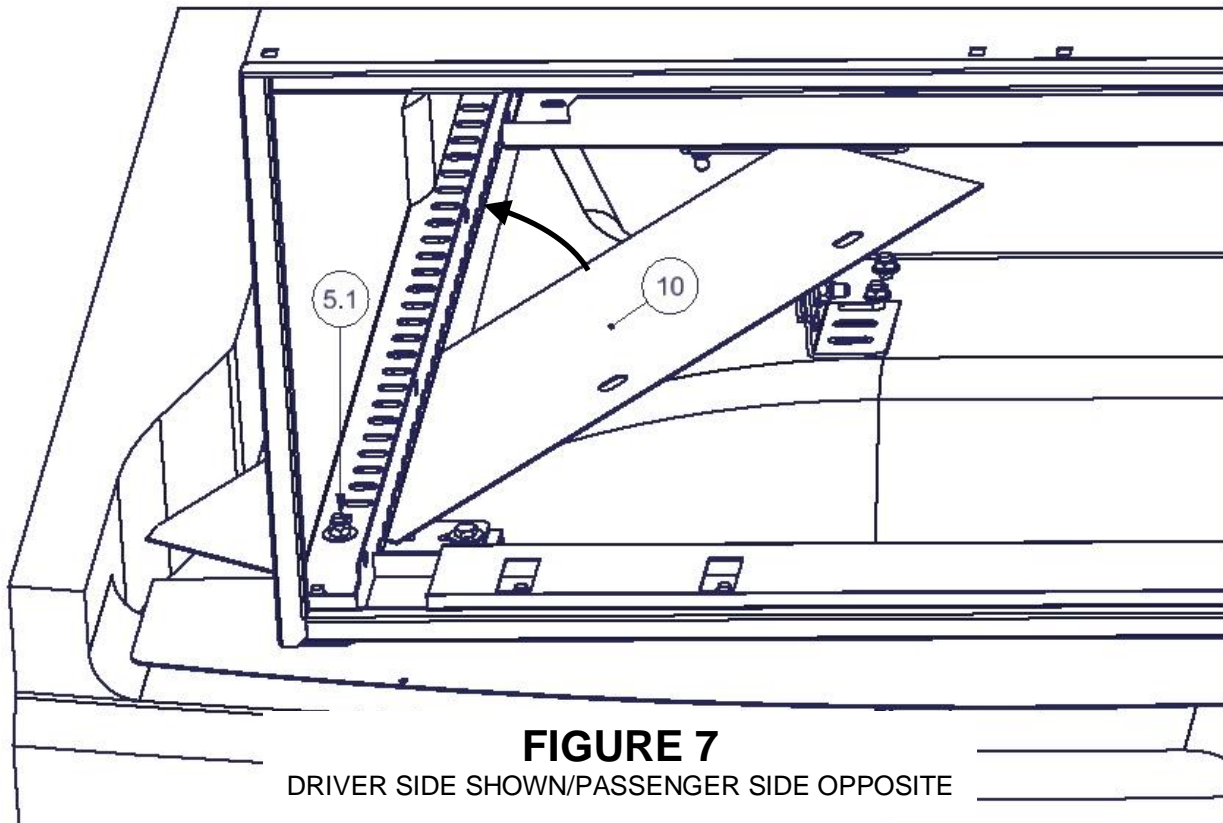

FIGURE 7
9. Insert the #10 Side Aprons from inside the enclosure by placing the notched portion of the apron around the rearmost #5.1 mount bolt with the apron between the enclosure and #7 Support Plate, then rotating the apron into position under the edge of the enclosure. (See Figure 7)
- Insert the #10 Side Aprons from inside the enclosure by placing the notched portion of the apron around the rearmost #5.1 mount bolt with the apron between the enclosure and #7 Support Plate, then rotating the apron into position under the edge of the enclosure. (See Figure 7)